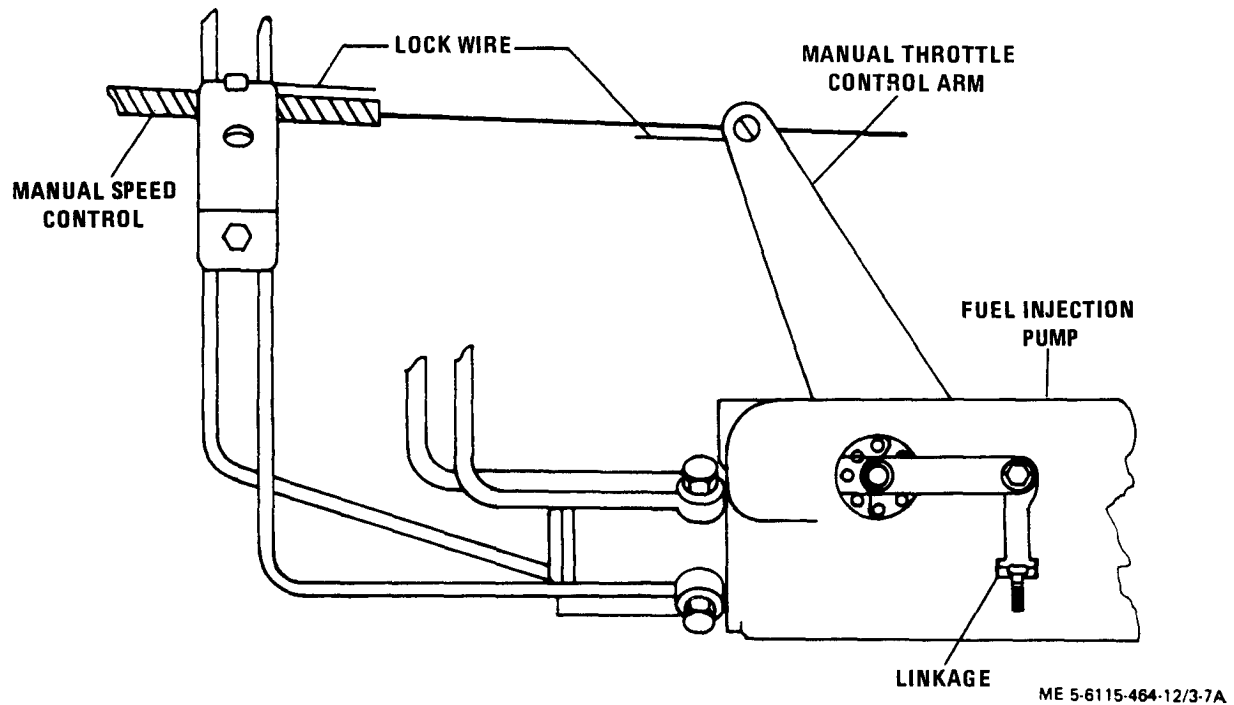

Figure 3-7A. Emergency Conversion Connections
(1) Tactical Precise to Tactical Utility. Disconnect the wiring harness from the special relay box, located on the relay table. Install the shorting plug, attached to the special relay box, into the connector on the special relay box. Disconnect the linkage between the actuator and the fuel injection pump (figure 3-7A). Remove the lockwire. Adjust the manual speed control and manual throttle control arm so that with the control knob fully in, the manual throttle control arm is at the low idle setting.
(2) Tactical Utility to Tactical Precise. With the manual speed control knob fully in, install a lockwire (figure 3-7A) on the manual throttle control arm so that the arm is in the approximate position shown in figure 3-7A. Remove the shorting plug from the receptacle on the special relay box. Connect the wiring harness to the special relay box receptacle. Do not detach the shorting plug from the special relay box. Connect the linkage between the hydraulic actuator and the fuel injection pump.